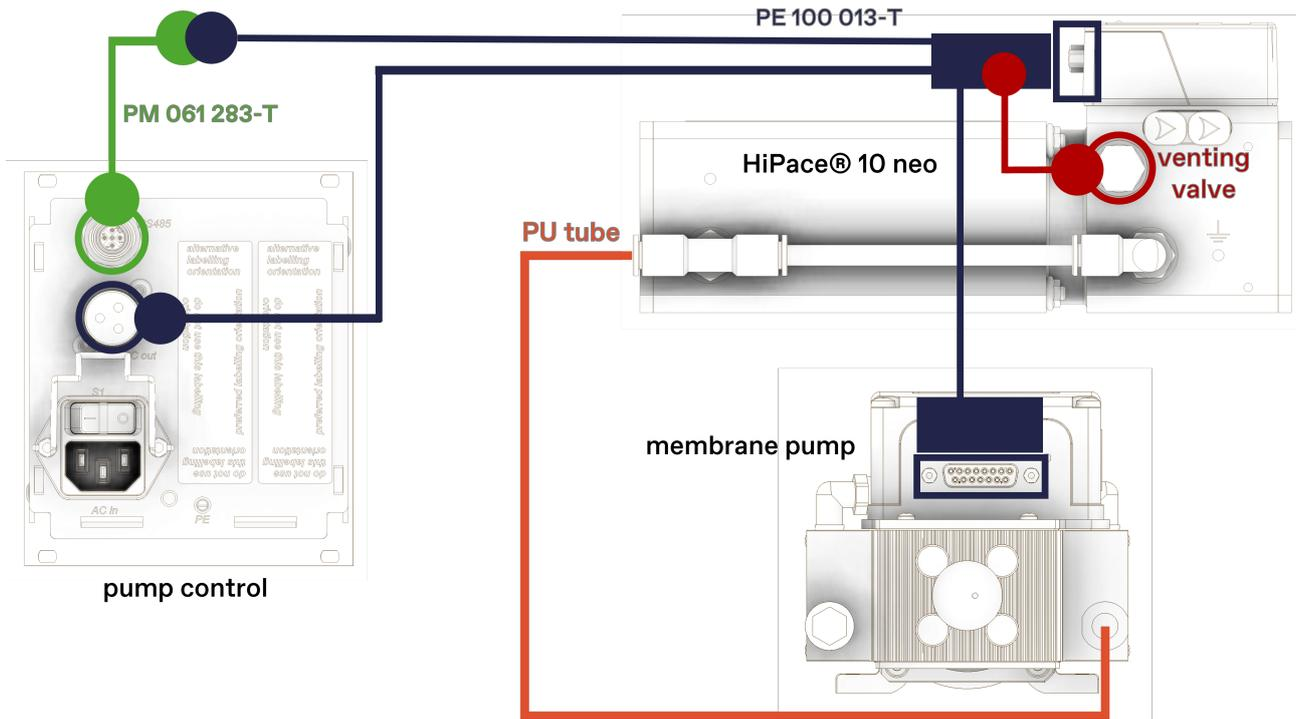

Figure 14: Schematic of the HiPace® 10 Neo pumping system setup and connections
Follow these steps to set up the HiPace® 10 Neo pumping system according to the schematic shown in Figure 14:
2. Unbox the membrane pump "MVP 010-3" and mount the quick connector adapter to the pump input on the right (see Figure 14) and mount the filter to the output to the left. Place the pump (ideally on the floor to reduce vibration) and plug in the connection cable "PE 100 013-T" as shown in Figure 14.
(already connected to the membrane pump) and connect the automatic venting valve cable to the socket "b1" on the connection cable "PE 100 013-T" as shown in Figure 14).